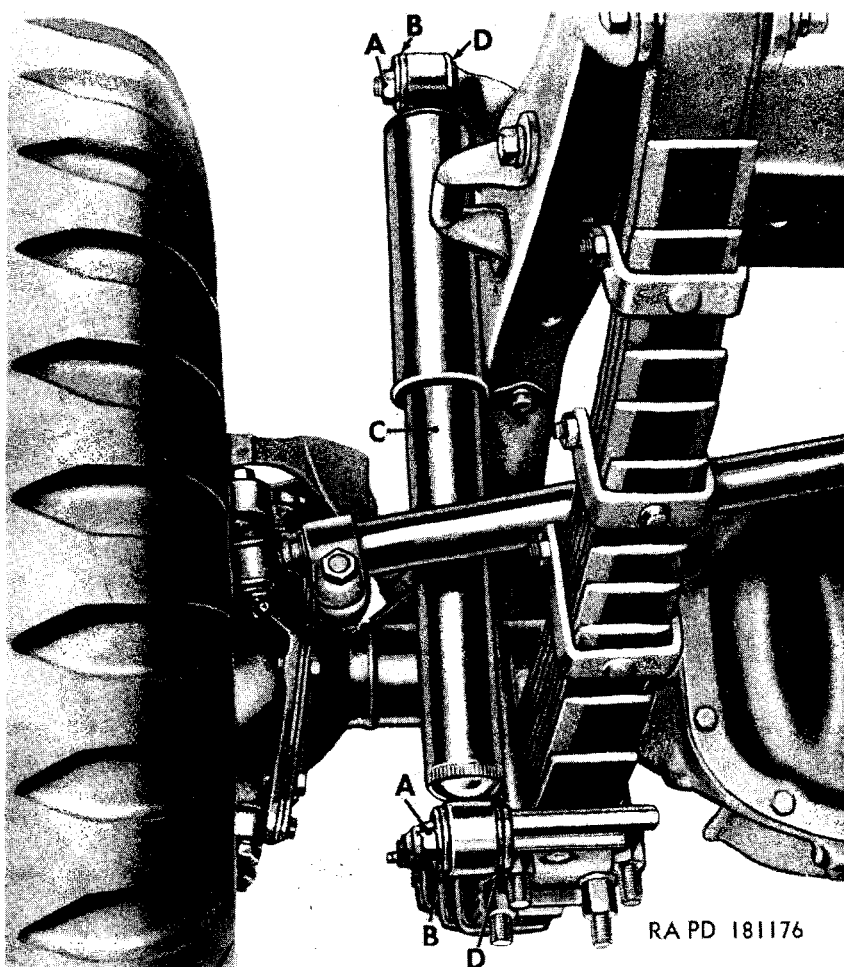

Figure 40. Shock absorber disconnect points.
b. Remove Shock Absorbers (fig. 40). Remove two locknuts (A). Remove two flat washers and mounting pin bushings (B). Remove shock absorber (C). Remove two mounting pin bushings (D).
a. Install Shock Absorbers (fig. 40). Install mounting pin bushing (D) on spring clip plate and on shock absorber mounting pin bracket. Install shock absorber (C) and two mounting pin bushings (B), two $\frac{1}{2}$ ID, $1\frac{1}{4}$ OD, 0.083 thick flat washers, and two $\frac{5}{16}$ -20NF locknuts (A). Tighten locknuts until bushings show compression behind flat washers.